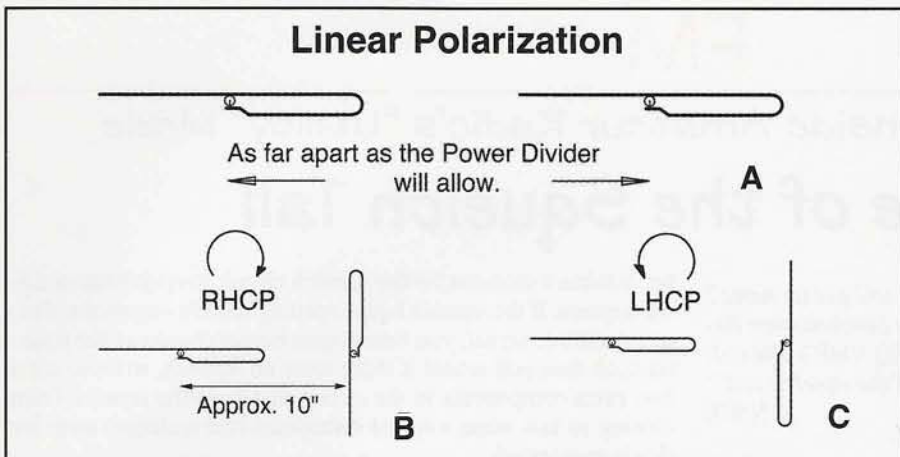

Figure 4. Mounting the Yagis for various types of polarization.
The other way to mount the antennas will generate circular polarization (figure 4). By having one antenna 1/4 wavelength in front of the other and both driven by the same phase, a circular-polarized (CP) wave will be generated. Make the boom on one of the antennas about 8 inches longer at the back. Drill another set of mounting holes 6 1/2 inches behind and 90 degrees to the other mounting holes. Now by just slipping the U-bolt from the front holes to the back holes, and rotating the antenna 90 degrees, you have a CP 435 MHz antenna. If you think that right-hand CP (RHCP) might work better than left-hand CP (LHCP), then by flipping over either of the antennas 180 degrees, you will reverse the phasing, and it's now LHCP.